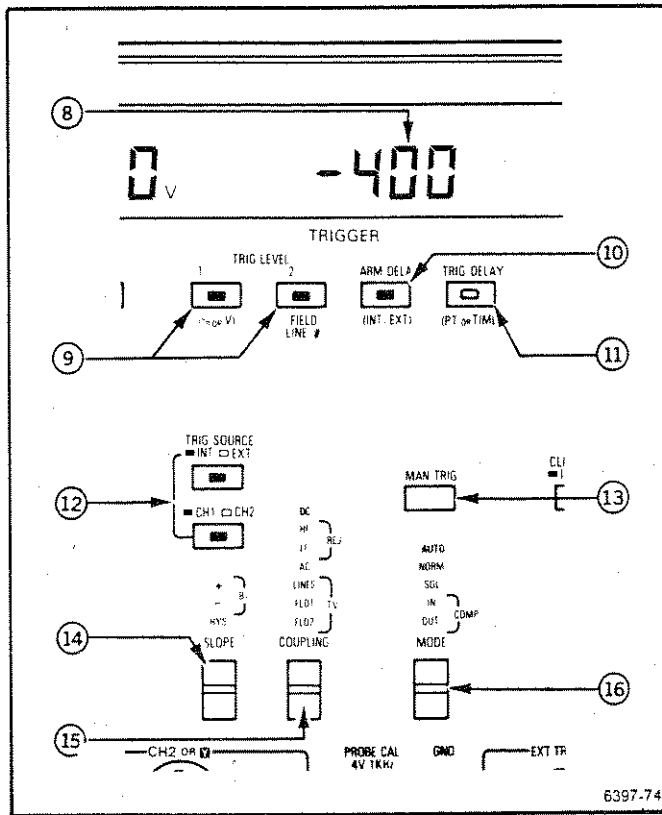

Fig. 3-4. Trigger section of front panel.
Refer to Fig. 3-4 for location of items 8 through 16.